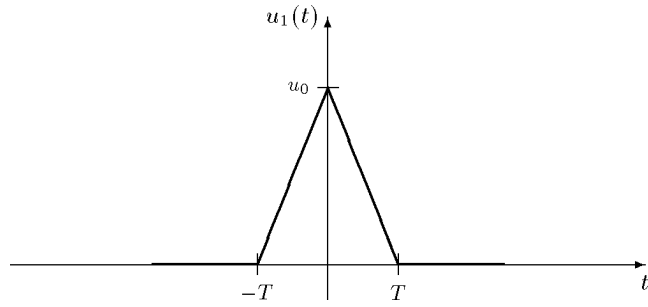

Figure 12-3: Triangular pulse
2. Triangular pulse      **DREIECK / TRIANGLE** (see figure 12-3)